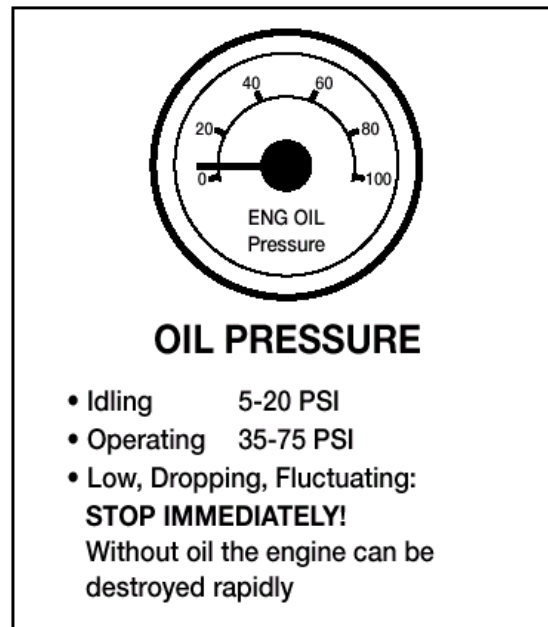

Figure 2.5
**Oil pressure.** Should come up to normal within seconds after engine is started. See Figure 2.5